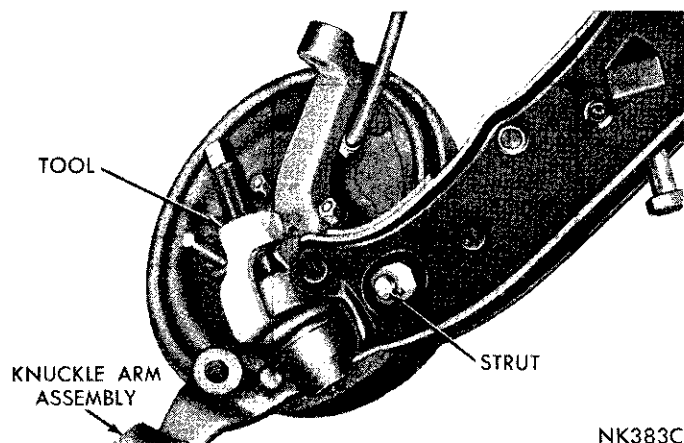
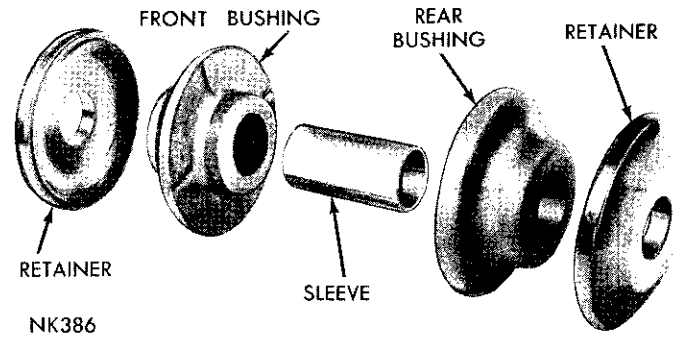

Fig. 14—Removing Lower Ball Joint Stud
Fig. 15—Strut Crossmember Bushing (Chrysler)
(2) Remove cotter pin and nut. Remove tie rod end from steering knuckle arm using Tool C-3964 or Tool C-3742. **Use care not to damage seal.**
(3) Remove sway bar to strut attaching straps.
(4) Remove steering knuckle arm to brake support bolts and remove steering knuckle arm. Move brake support assembly out of the way. **Do not allow brake support to hang by brake hose.**
(5) Remove ball joint stud from lower control arm using Tool C-3964 (Fig. 14). The bottom portion of tool must be positioned between seal and control arm to avoid seal damage.
(6) Remove strut spring pin, front nut and bushing retainer.
(7) Remove nut and washer from lower control arm pivot shaft.
(8) Tap end of lower control arm shaft with a "soft end" hammer, to aid in removal of shaft from cross-member, and remove lower control arm, shaft and strut as an assembly.
(9) Remove strut bushings (Fig. 15) from cross-member.
(10) Remove strut bushing inner retainer from strut.
(1) Remove lower control arm, shaft and strut as an assembly.
(2) Remove nut holding strut to lower control arm and remove strut from control arm.
(3) Inspect strut bushings (Fig. 15). If bushings are worn or deteriorated, install new bushings.